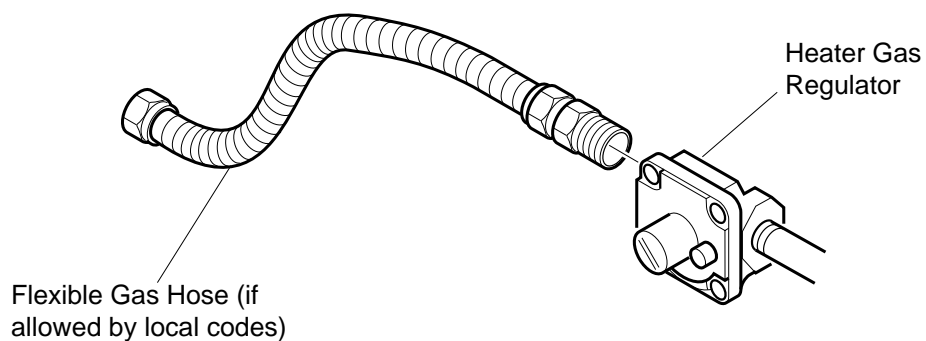

Figure 12 - Attaching Flexible Gas Hose to Heater Gas Regulator
1. Apply pipe joint sealant lightly to male threads of gas regulator. Connect approved flexible gas hose to gas regulator of heater (see Figure 12, page 16).